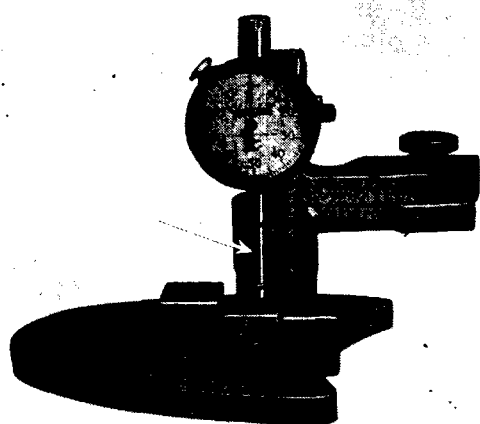
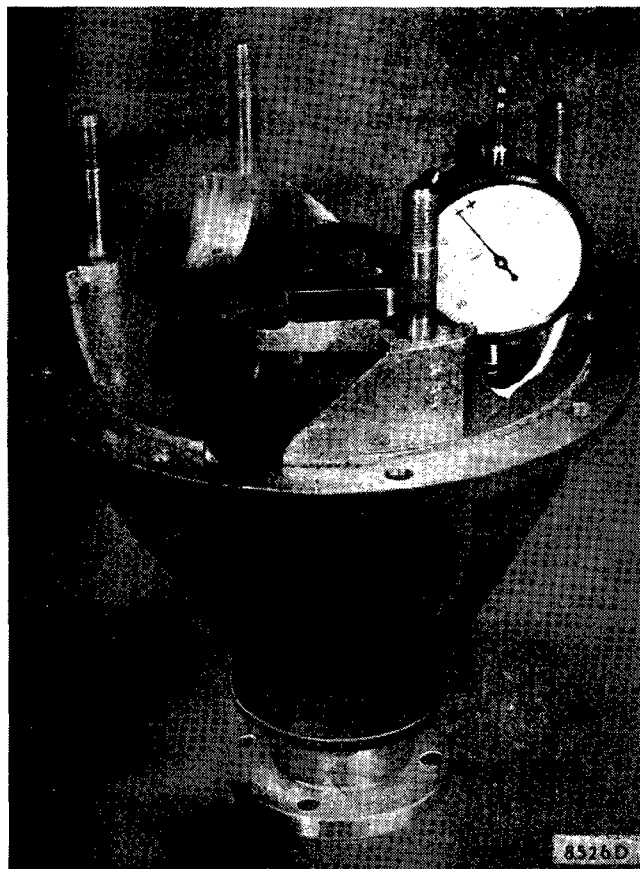

Fig. H.6
Fig. H.7
part is renewed, such as a crown wheel and pinion, pinion bearings, etc., the setting of the pinion (i.e. its position relative to the crown wheel) must be checked. This work should be carried out with the aid of the bevel pinion and differential bearing setting gauge 18G191B shown in Fig. H.6.
- (4) Using the setting block provided, adjust the clock gauge to read zero on the machined step marked 'B' type. (See Fig. H.6.) Remove the keep disc from the base of the magnet and, after cleaning the head of the pinion, place the tool in position on the end face. Adjustment of the knurled screw will allow the clock arm to move in relation to the main mounting bracket. Ensure that when the clock gauge is at zero the knurled screw is fully tightened, otherwise readings obtained will be inaccurate. Move the clock arm until the foot of the gauge rests on the centre of the differential bearing bore at one side and retighten the knurled screw. Obtain the maximum depth reading and note any variation from the zero setting. (See Fig. H.7.) Make a similar check in the bearing bore on the opposite side. Add the variations together and divide by 2, thus obtaining a mean reading. If this mean reading is within plus or minus ( $\pm$ ) .001 in. (.025 mm.) of the zero setting of the clock gauge, the washer fitted is of the correct thickness. Any larger variation entails further adjustment, carried out as follows: